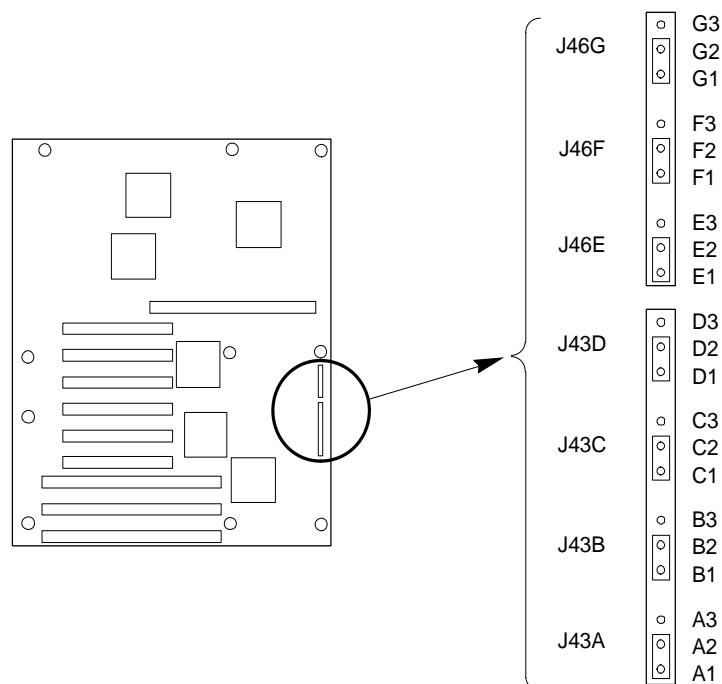

Figure 7-2. System Board Jumpers
8. Check the required board settings and set the jumpers accordingly. Figure 7-2.